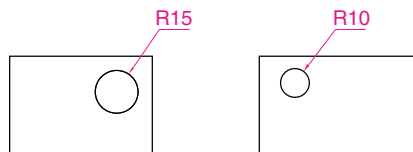

Fig. 6.25 Example – **Geometric tolerances** – dimensions to be toleranced
1. Construct the two rectangles with circles as in Fig. 6.25.